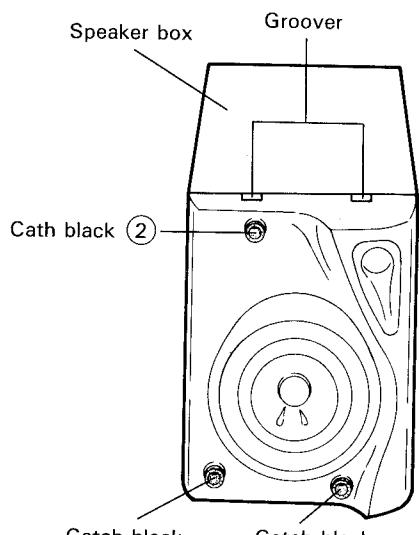
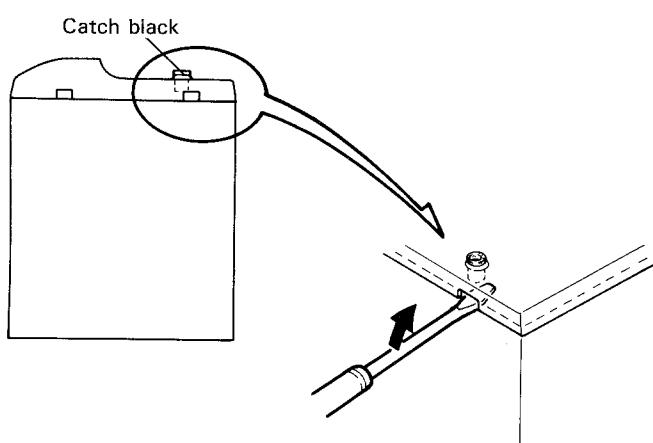

Fig. 7-24
Fig. 7-25
2. Stand the speaker box (7) upside down as shown in Fig. 7-24.
3. Insert an ordinary (-) screwdriver into the right hole shown in Fig. 7-24 and Fig. 7-25 and push the bottom end of the catch black (2) upside.